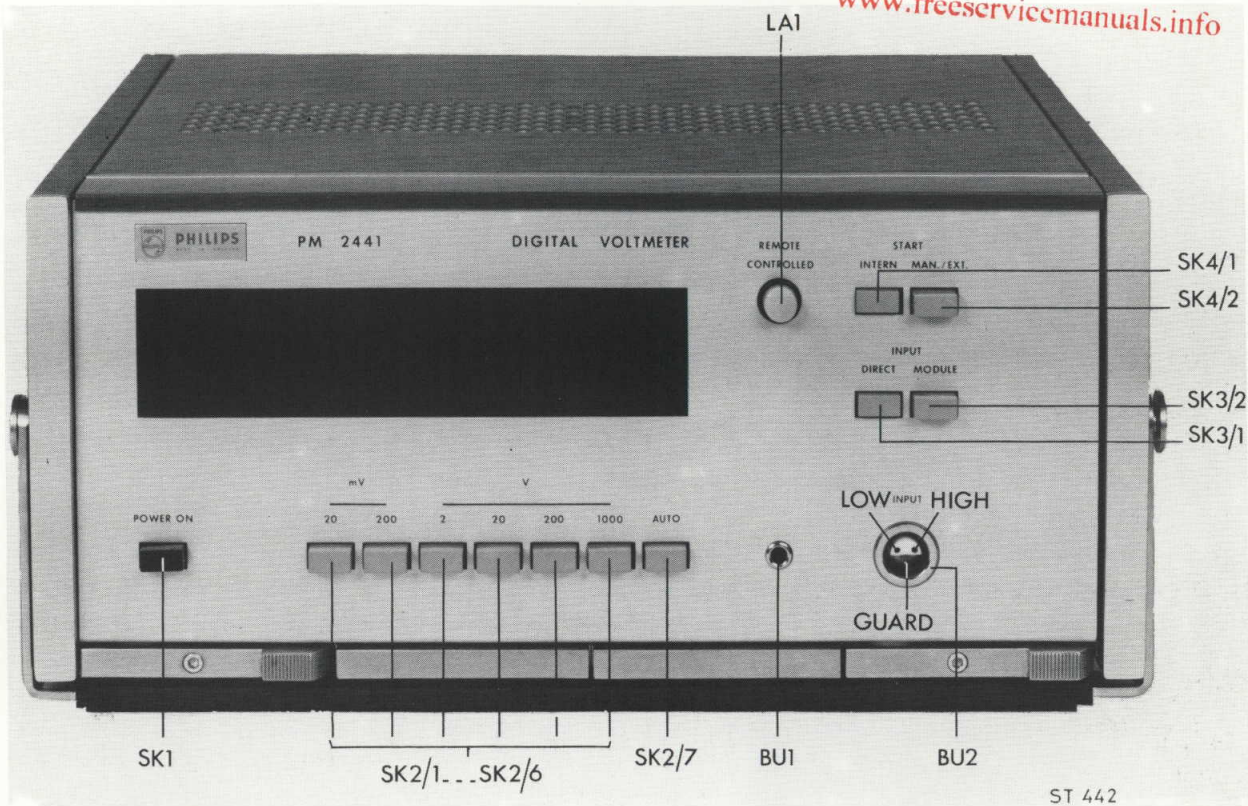

Fig. 14 Front view
- Connect the measuring cable (Fig. 1) at the input BU2 of the instrument (Fig. 14).
- Select the correct measuring range with switches SK2/1 to SK2/6 (Fig. 14).
- Depress switches SK3/1 DIRECT and SK4/1 INTERN (see Fig. 14).
- Connect the measuring cable (Fig. 1) to the input BU2 of the instrument (Fig. 14).
- Depress switches SK3/1 DIRECT and SK4/1 INTERN (Fig. 14).
- Depress switch SK2/7 AUTO (Fig. 14).
- Depress switch SK4/2 MAN/EXT instead of switch SK4/1 INTERN (Fig. 14).
- At measurements via MODULE-input switch MODULE SK3/2 (Fig. 14) must be depressed.